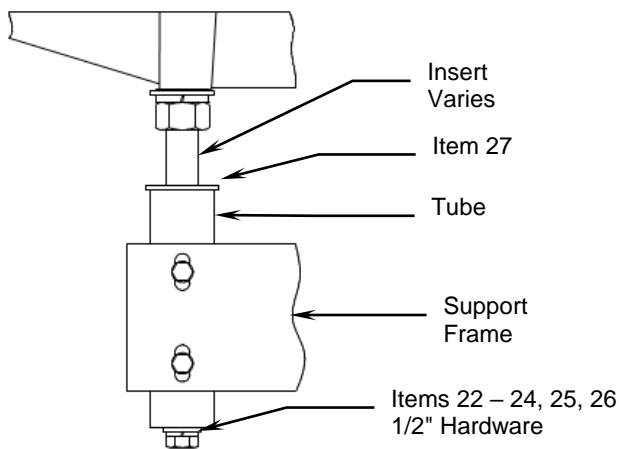
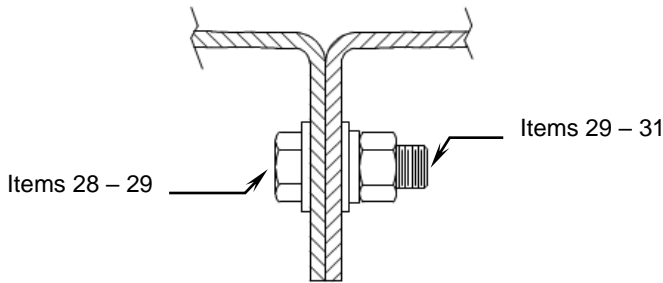

Figure 16: Reflector Support Reflector Detail
Figure 20: Reflector Seam Hardware Detail
13. After the quadrant is in position, place a Reflector Locator Spacer (item 27) between each insert and tube (see Figure 16, Reflector Support Reflector Detail). You will repeat this procedure for all four quadrants by referring to Figure 16.
14. Secure the quadrant to the frame with the 1/2" hardware. See Figure 16, Reflector Support Reflector Detail. Note that there are three different 1/2" bolt lengths:
16. Place Locator Spacers as in step 12 and Figure 16, Reflector Support Reflector Detail.
17. Secure the quadrant to the frame with 1/2" hardware. See Figure 16. Note that there are three different 1/2" bolt lengths:
- Location A = (items 23, 25, 26)
- Location B = (items 22, 25, 26)
- Location C = (items 24, 25, 26)
18. Secure Quad 1 and 2 together with 3/8" hardware (items 28 – 31). See Figure 20, Reflector Seam Hardware Detail, Page 17.
20. Place Locator Spacers as in step 12 and Figure 16, Reflector Support Reflector Detail.
21. Secure the quadrant to the frame with 1/2" hardware. See Figure 16. Note that there are three different 1/2" bolt lengths:
22. Secure Quad 4 and 1 together with 3/8" hardware (items 28 – 31). See Figure 20, Reflector Seam Hardware Detail, Page 17.
24. Place Locator Spacers as in step 12 and Figure 16, Reflector Support Reflector Detail.
25. Secure the quadrant to the frame with 1/2" hardware. See Figure 16. Note that there are three different 1/2" bolt lengths:
26. Secure Quad 3 and 2, and Quad 3 and 4 together with 3/8" hardware (items 28 – 31). See Figure 20, Reflector Seam Hardware Detail, Page 17.